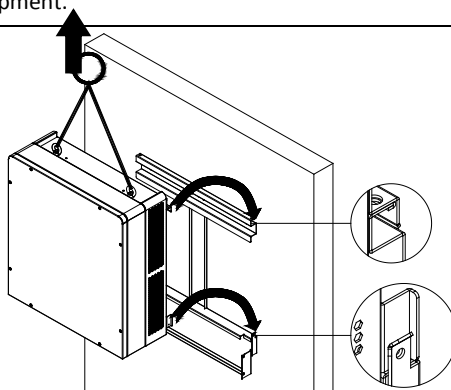
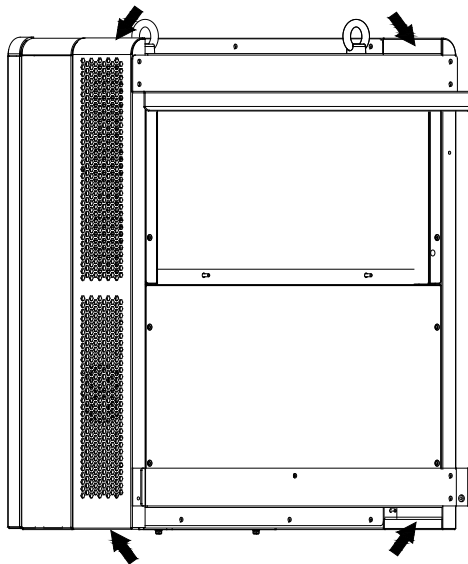

Figure 2.7 - Mounting the Main Inverter Section on the Bracket
Figure 2.8 - Grab Handle Position
(3) Hang the inverter onto the mounting bracket as shown in Figure 2.7 and Figure 2.8;
Manual mounting: Two people are needed to properly lift the inverter by the handles detailed in Figure 2.8, and mount the inverter onto the bracket.